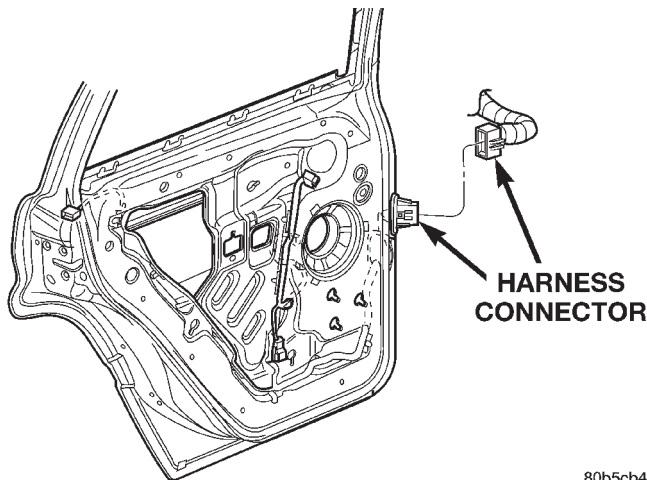

Fig. 38 Rear Door Harness Connector
- (1) Disconnect rear door harness connector (Fig. 38).
- (2) Support door with padded floor jack.
- (3) Remove retaining clips from hinge pins.
- (4) Tap out hinge pins.
- (5) Separate door from vehicle.